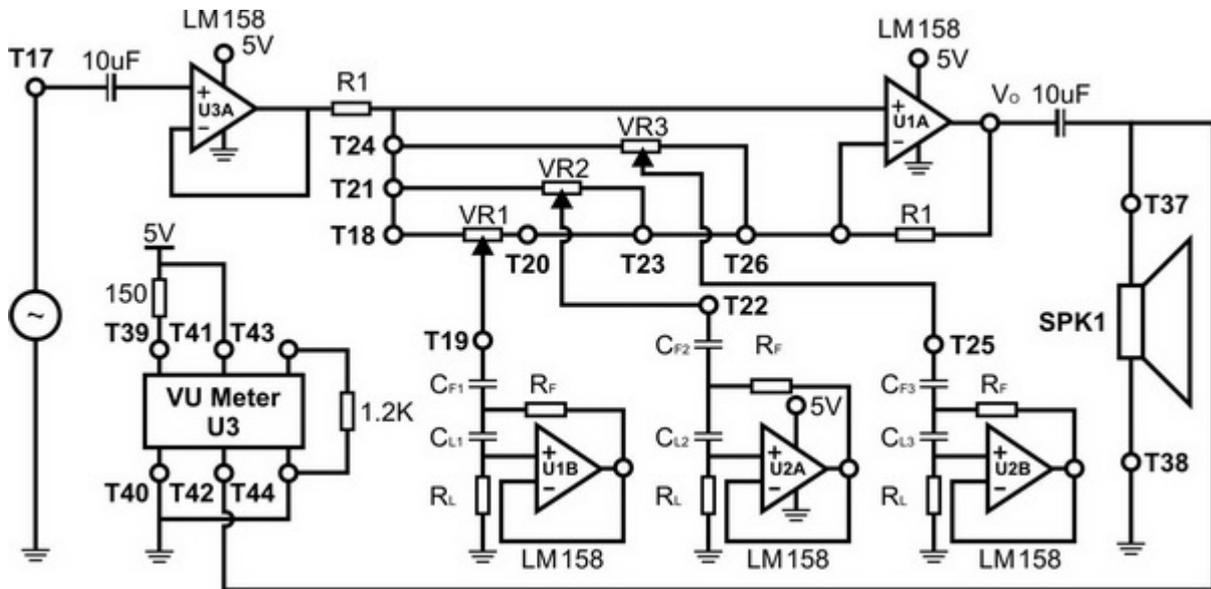

Figure 6 – Schematic Diagram of the 3-Band Gyrator-Based Equalizer with VU Meter
2. Build a 3-band gyrator-based equalizer with UV meter by following the schematic connections as shown in Figure 6 on the breadboard of the ME3100 Analog Circuit Design kit. Refer to the appendix for the pin layout of op-amp **LM158**.
4. Figure 6 shows a 3-band equalizer based on a single variable gain amplifier using, the gyrator-based bandpass filter. The resonant frequencies of the filter are **250Hz, 1 kHz, and 4 kHz**.
6. With all the connections properly connected as shown in Figure 6, configure the power supply as described in Section 4.1 and turn it on. The red LED **D1** on the ME3100 Analog Circuit Design kit will blink for a moment.